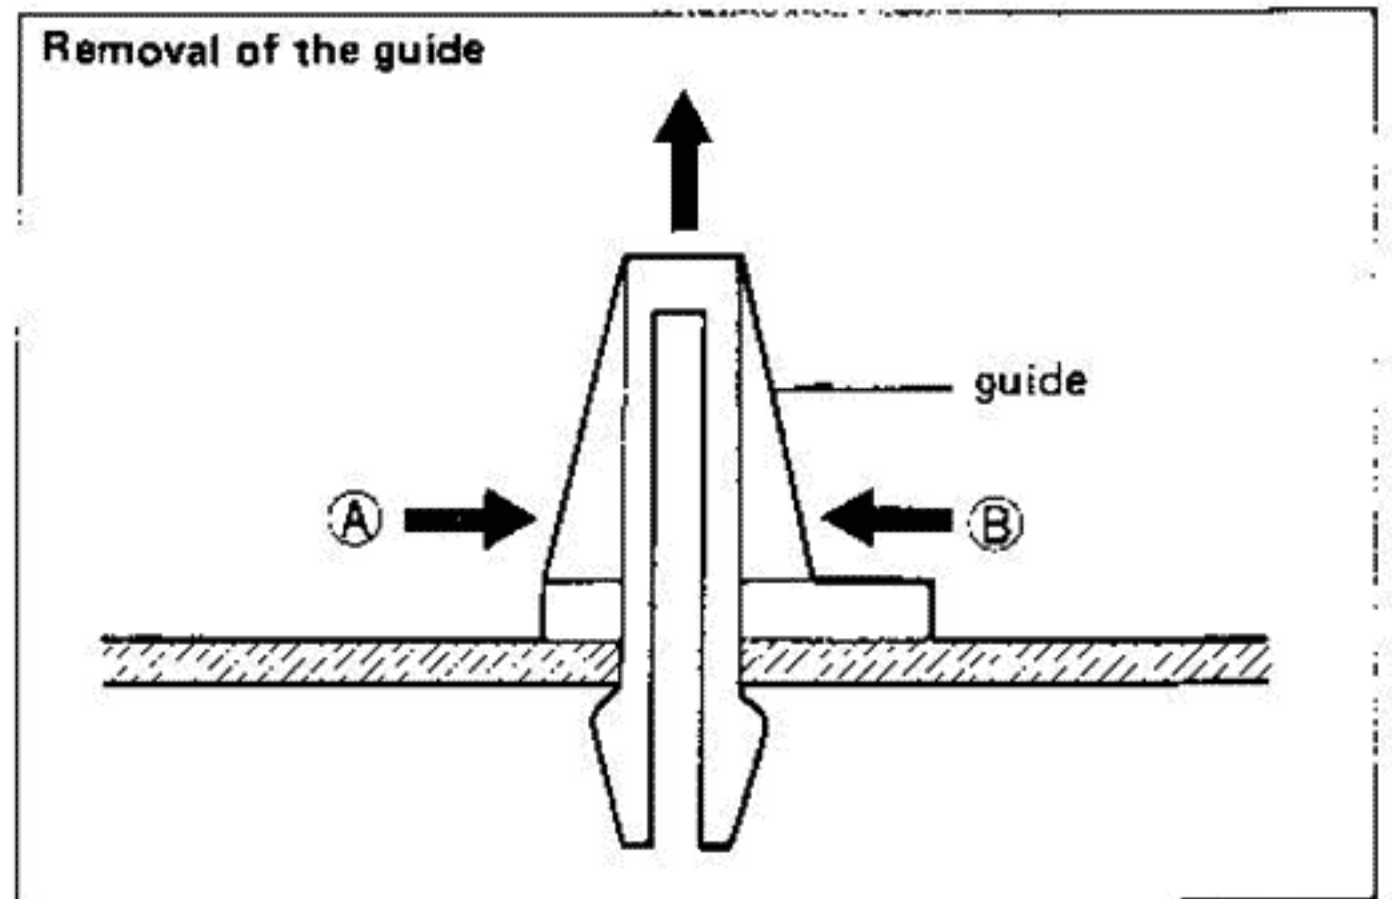

Fig. 12
- c. Hold ① and ② in Fig. 12 with a plier or the like and pull off the guide.